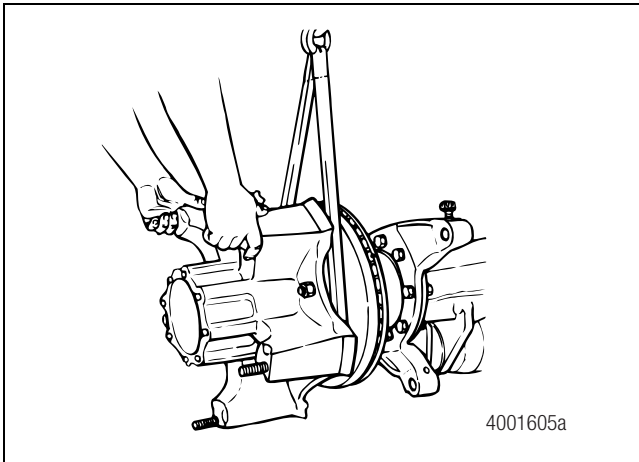

Figure 8.7
2. Use a strap or other lifting device to support the disc and wheel or hub. Figure 8.7.